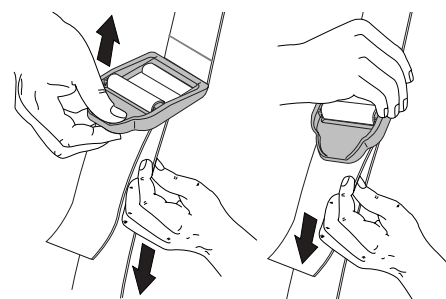

Figure 6
4. Adjust length to fit the operator's size. Pull tab to lengthen, pull strap to shorten. See Figure 6.